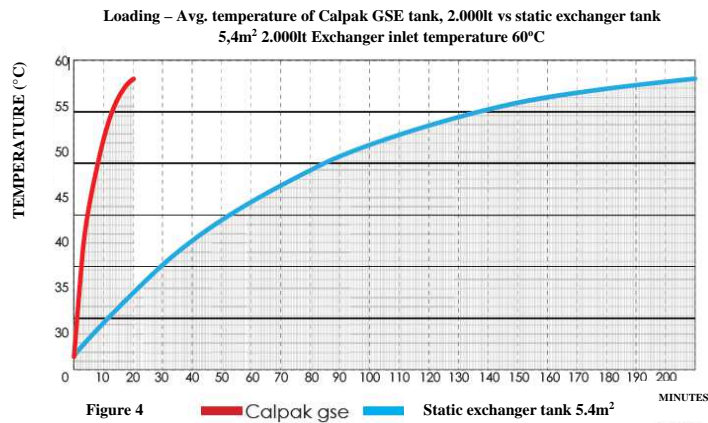

Figure 3
- ✓ **Ultra fast ultratank charging, compared to traditional tanks (see figure 3)**